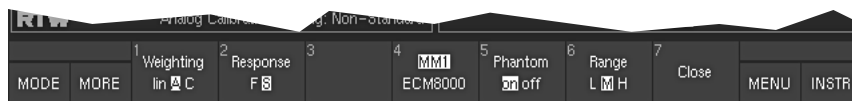

Fig. 5-34: Screen display after selecting the SPL Meter function of the CAL instrument's second function layer
(Button/key 1, see Fig. 5-34)
(Button/key 2, see Fig. 5-34)
(Button/key 4, see Fig. 5-34)
(Button/key 5, see Fig. 5-34)
(Button/key 6, see Fig. 5-34)
(Button/key 7, see Fig. 5-34)